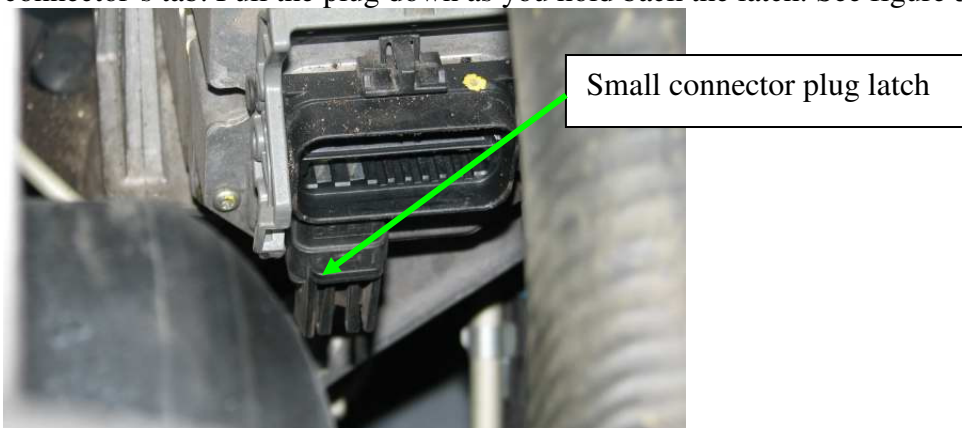

Figure 5: Small plug and connector
3.0 To disengage the small connector, you must lift the mating plug's small latch away from the connector's tab. Pull the plug down as you hold back the latch. See figure 5, 6, 7, and 8.